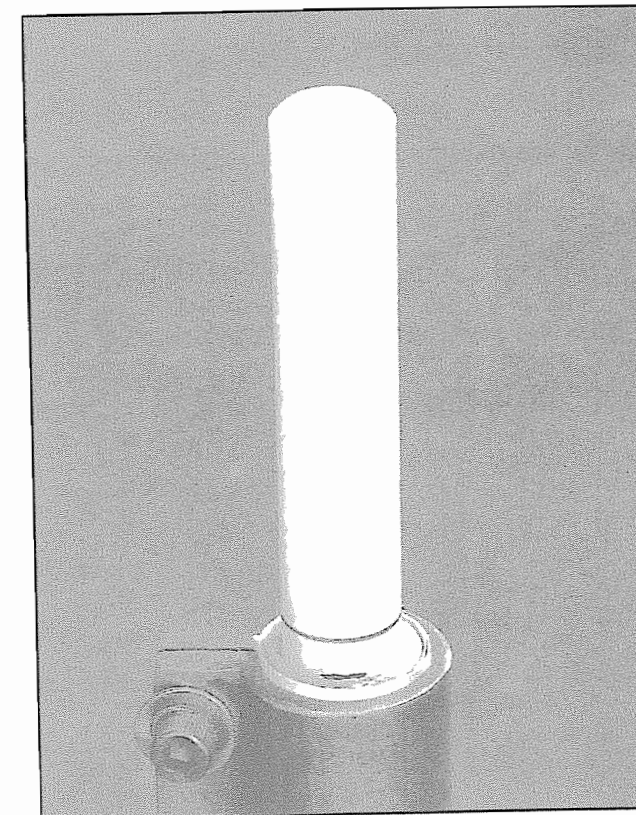

Figure 10-49. Small amounts of propellant are rammed into place until the second mark lines up with the front of the motor casing.
5. *Without delay*, add a small amount of the dampened propellant to the front of the motor, and ram it in with the flat-ended tamp. Then repeat the process until the *second* mark on the tamp lines up with the front edge of the casing (**Figure 10-49**).